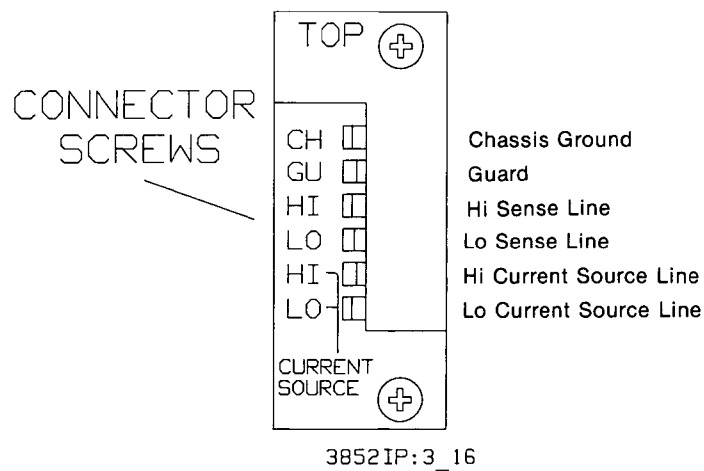

Figure 3-16. Analog Extender Connector Terminals
2. Loosen the screws of the connector terminals where the cable wires are to be connected (Figure 3-16). Table 3-2 lists the terminal connections for common measurements.